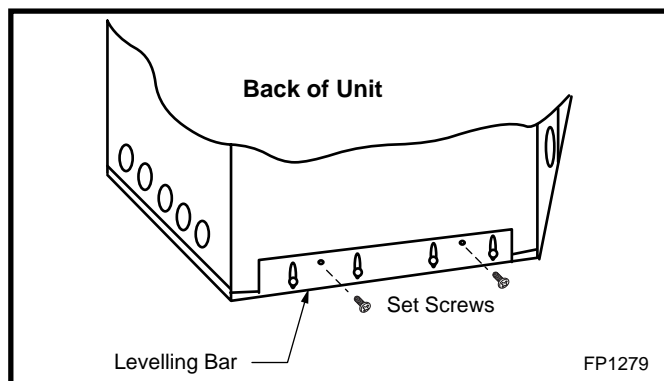

Fig. 8 Set levelling bar at proper height and tighten screws.
2. Loosen the four (4) screws. (Fig. 8)
4. Add the two (2) extra screws to prevent any movement.